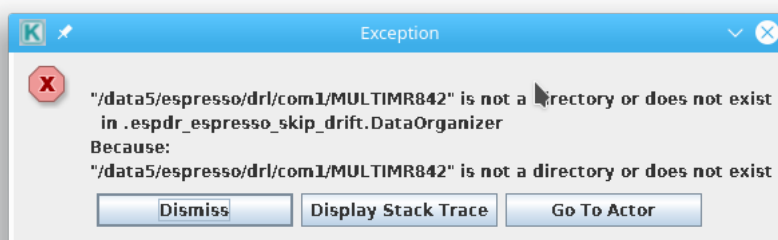

Figure 9.0.1: *TheDataOrganizer* interactive window reports an error “:No DataSets have been created, check the DataSet and the OCA rules.”.
- (b) **it fails with error message “:No DataSets have been created, check the data set and the OCA rules.” (see Figure 9.0.1).**